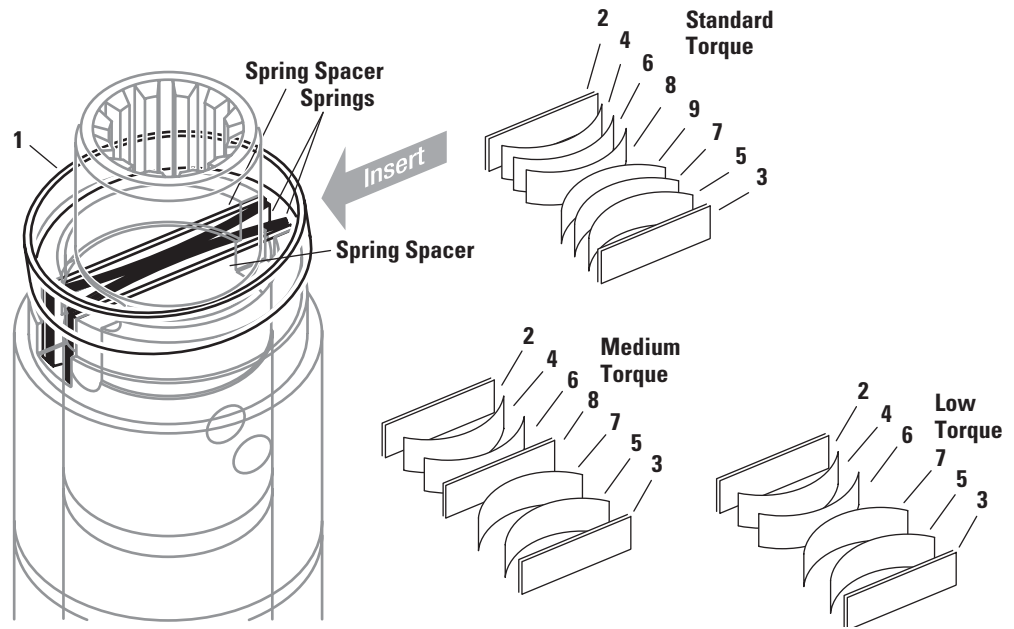

Figure 18
16. Installation of spring spacers and springs, hold spring retainer at an angle as shown (see figure 18 reference number 1), insert spring spacers and springs one at a time in sequence noted by reference numbers 2 - 9 (standard torque), 2 - 8 (medium torque), 2 - 7 (low torque), then position spring retainer correctly over all these parts. Adjust alignment of spring parts with a small screwdriver.